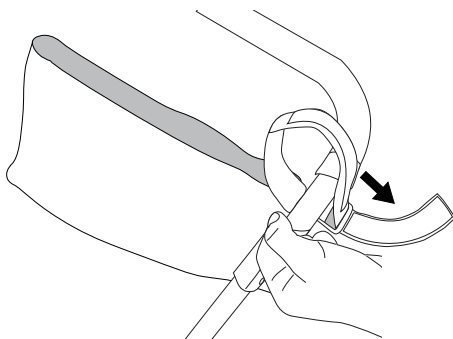

Fig. 3A
- Thread velcro strap through plastic buckle from the top down and through (Fig 3A)